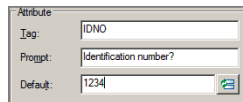

FIGURE 15.11 Creating another attribute definition
9. Press the spacebar to repeat the ATTDEF command. Type **IDNO** as the tag, **Identification number?** as the prompt, and **1234** as the default (see Figure 15.11). Set Justification to Middle Center and click OK. Click the midpoint of the lower diagonal line at point E in Figure 15.8.